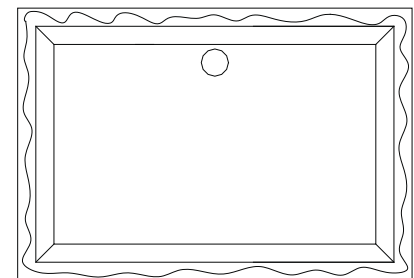

Figure 4
- Cover the flat rim of the sink with a silicone sealer. (Figure 4)